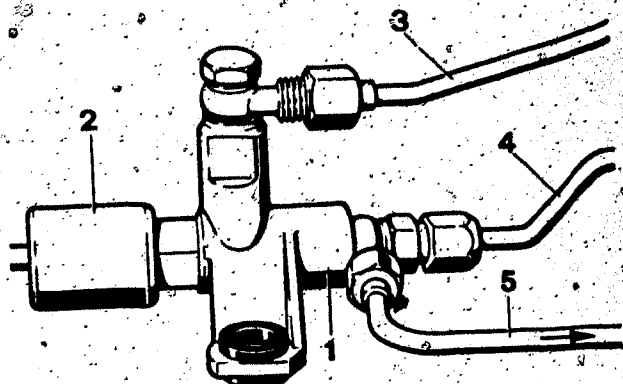

Fig. 2
2.2 Loosen the hand-setting device and pull it towards the front together with the cables (Fig. 2).